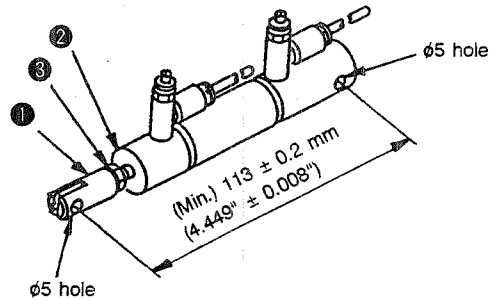
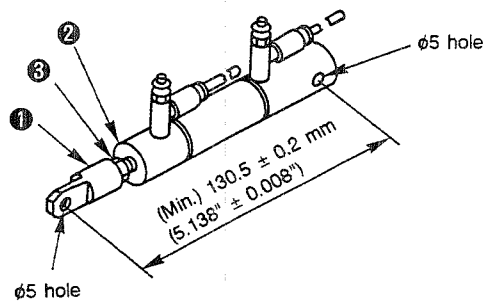

Fig. 5-22-1
Fig. 5-22-2
At the time, the intermediate presser lifting stroke is 20 mm (0.787") (at the time of delivery). (Fig. 5-22-1)
At this time, the intermediate presser lifting stroke is 20 mm (0.787") (at the time of delivery) (Fig. 5-22-2)
<ul style="list-style-type: none"> o Loosen nut ③ in the shaft of intermediate presser cylinder ②. Screw in intermediate presser cylinder knuckle ① toward the shaft to adjust the hole-to-hole distance. After making the adjustment, securely tighten nut ③ and intermediate cylinder knuckle ①. (Fig. 5-22-1) (Fig. 5-22-2) 	<ul style="list-style-type: none"> o When the distance exceeds 113 (4.449") ± 0.2 mm (0.008") (130.5 ± 0.2 mm (5.138" ± 0.008") for the H and G types of sewing machine): The intermediate presser lifting stroke is less than 20 mm (0.787"). o When the distance is less than 113 (4.449") ± 0.2 mm (0.008") (130.5 ± 0.2 mm (5.138" ± 0.008") for the H type of sewing machine): The intermediate presser will fail to be lifted. The round cornered section in the top end of the intermediate presser bar may enter the intermediate presser bar lower bushing while the intermediate presser goes up, resulting in an oil leak.